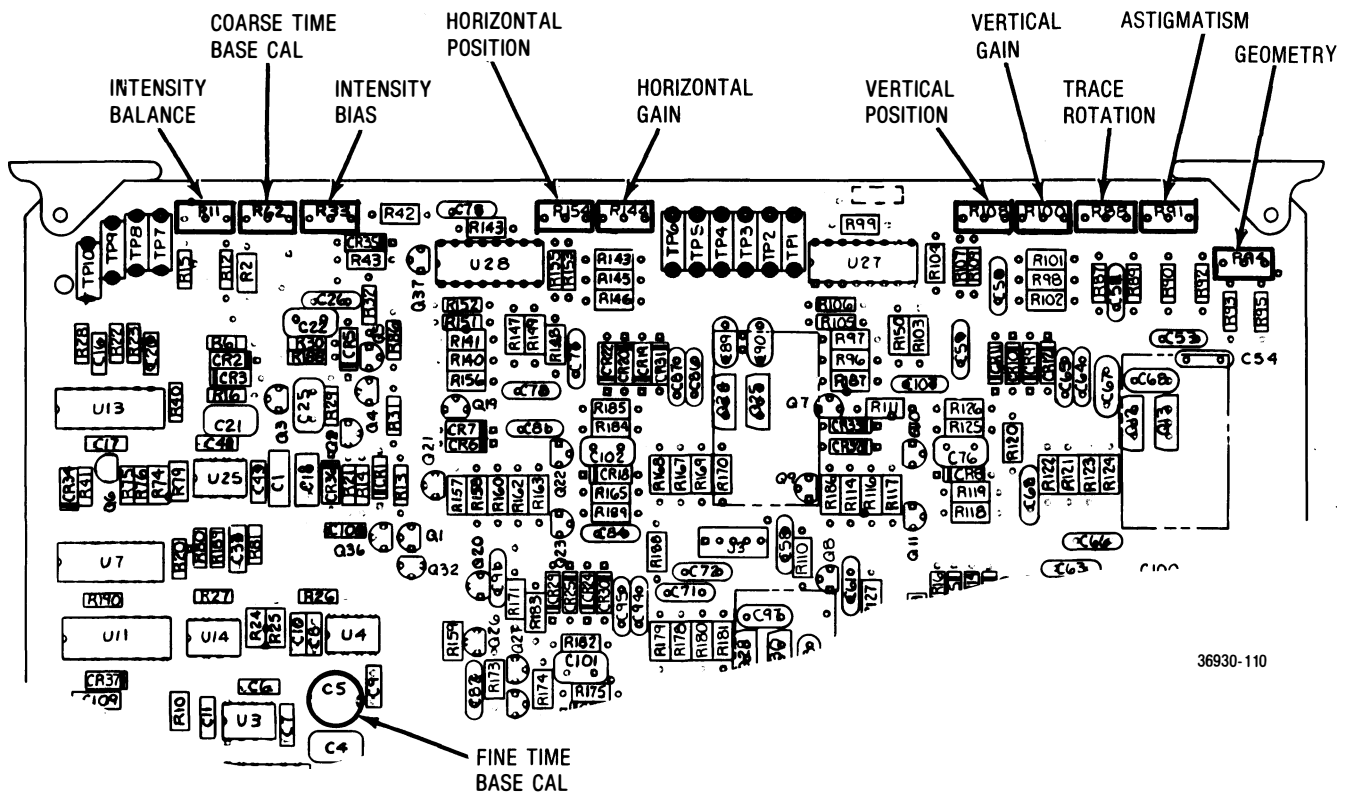

Figure 3-1. Scope Amplifier Board (A2) - Alignment Points
2. Adjust the Intensity Bias potentiometer on the Scope Amplifier board (Figure 3-1) until a dot appears on the screen. You may have to use the Vertical and Horizontal position control (Vert, Horiz) on the front panel to bring the dot onto the screen. Then back off the Intensity Bias potentiometer until the dot just disappears.
2. Adjust the Intensity Balance potentiometer (Figure 3-1) for uniform intensity of the horizontal trace from left to right. The Balance potentiometer affects the intensity on the left side of the trace.
2. While using the Focus control to maintain a focused display at the center of the CRT, adjust the Astigmatism and Geometry potentiometers (Figure 3-1) for the best focus at the outer edges of the CRT with minimum pincushion and barrel distortion of the display. The two adjustments are interactive; to get the best display, alternate repeated small adjustments between the two potentiometers.
2. With the Test-Point Shorting Jumper, connect TP1 of the Scope Amplifier board (Figure 3-1) to chassis ground.
3. Adjust the Trace Rotation potentiometer (Figure 3-1) to make the horizontal trace on the CRT perpendicular to the graticule center line.
4. Adjust the Vertical Position potentiometer (Figure 3-1) so that the horizontal trace on the CRT passes through the graticule center point.
5. Adjust the Trace Rotation potentiometer (Figure 3-1) to align the horizontal trace on the CRT behind the horizontal graticule line.
2. With the Test-Point Shorting Jumper, connect TP6 of the Scope Amplifier board (Figure 3-1) to chassis ground.
3. Adjust the Horizontal Position potentiometer (Figure 3-1) so that the vertical trace on the CRT passes through the graticule center point.
3. Connect an oscilloscope with a calibrated vertical input to TP6 on the Scope Amplifier board (Figure 3-1).
5. With 3 Vp-p at TP6, adjust the Horizontal Gain potentiometer (Figure 3-1) for a CRT horizontal trace of 6 cm. (Use the front panel controls to position the trace at a convenient place near the center of the CRT.)
4. Connect an oscilloscope with a calibrated vertical input to TP1 on the Scope Amplifier board (Figure 3-1).
6. With 3 Vp-p at TP1, adjust the Vertical Gain potentiometer (Figure 3-1) for a 6-cm p-p sinewave on the CRT. (Use the front panel's Horiz and Vert position controls to center the waveform on the CRT.)
4. Adjust the Coarse Timebase Calibration potentiometer on the Scope Amplifier board (Figure 3-1) so that one cycle of the displayed waveform occurs in 5 cm along the horizontal axis. Use the Vert and Horiz position controls to center and move the waveform; this will measure the 5 cm in the middle of the screen and avoid nonlinearities near the edge of the CRT.
6. Adjust the Fine Timebase Calibration capacitor on the Scope Amplifier board (Figure 3-1) so that one cycle of the displayed waveform occurs in 5 cm along the horizontal axis. As with coarse timebase calibration, use the Vert and Horiz position controls to center and move the waveform.